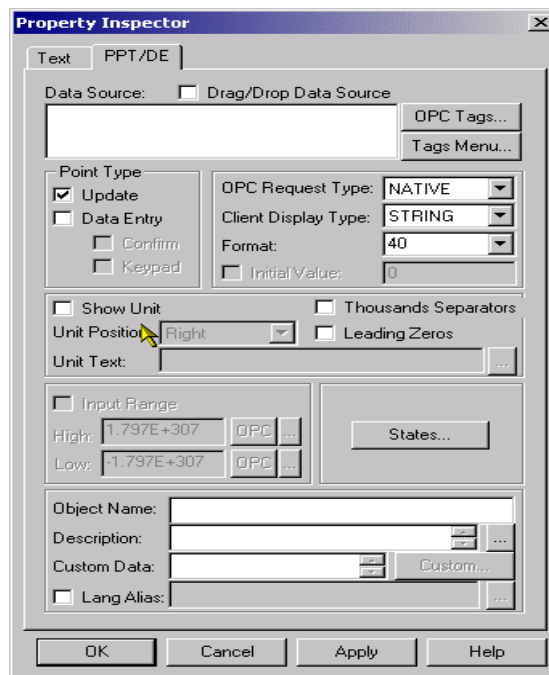

Figure 5.43
7. Once the **Process Point** is selected just click anywhere on the display to open the **Property Inspector**. Set up the **PPT/DE** tab as shown in **Figure 5.43**.